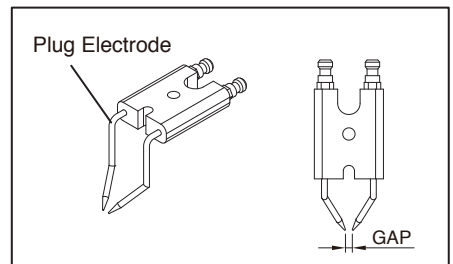

**Figure 7. Nozzle Removal**
- 11) Disassemble Nozzle as shown in Figure 7.